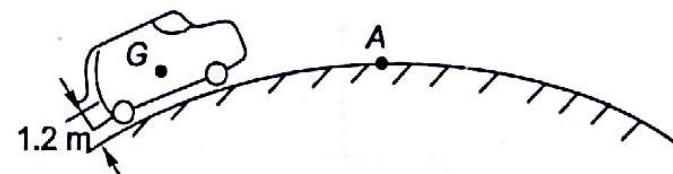

Fig. 11.12
11.8 A truck is moving on a curved path as shown in Fig. 11.12. G of the truck is located at a distance of 1.2 m from the level of the road. When the truck reaches the top of the hump at A, its G experiences an acceleration of 5.4 m/s^2 . What is the radius of curvature of the road at A, if the average speed of the truck is 80 km/hour?